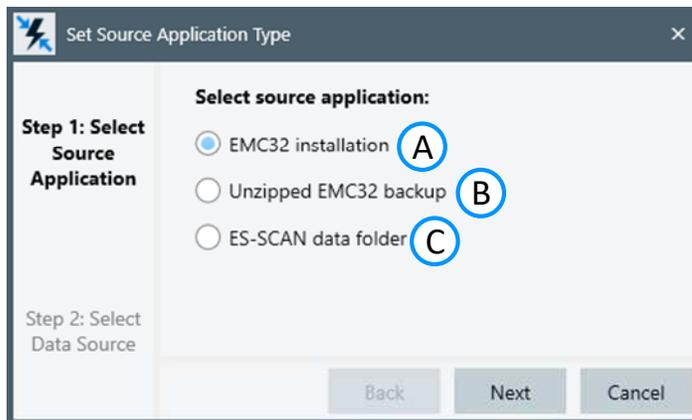

Figure 1: Different source application options
1. On the migration tool dialog window (Figure 1), select "EMC32 installation".
4. On the migration tool dialog window (Figure 1), select "Unzipped EMC32 backup".
1. On the migration tool dialog window (Figure 1), select "ES-SCAN data folder".